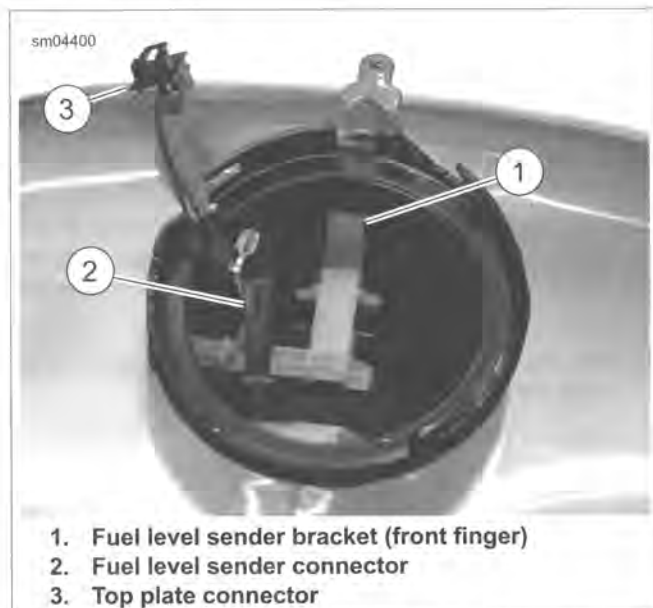
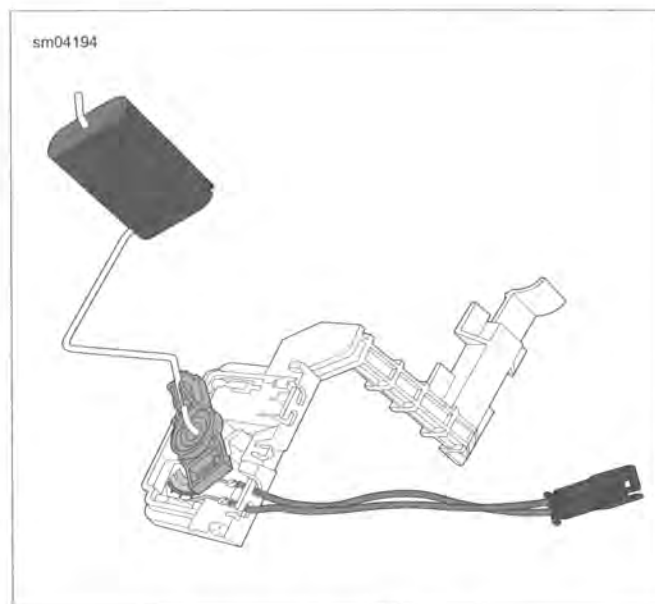

Figure 4-21. Front Finger (Fuel Level Sender Bracket)
Figure 4-22. Fuel Level Sender
See Figure 4-21. Look into fuel tank at bracketry. Note that finger (1) on front bracket points forward, while finger on rear bracket points rearward.
3. Pull up on front finger (1) and slide fuel level sender bracket rearward until four ears on bracket are free of catches at top of tunnel.
4. Remove fuel level sender from left side of fuel tank. See Figure 4-22.